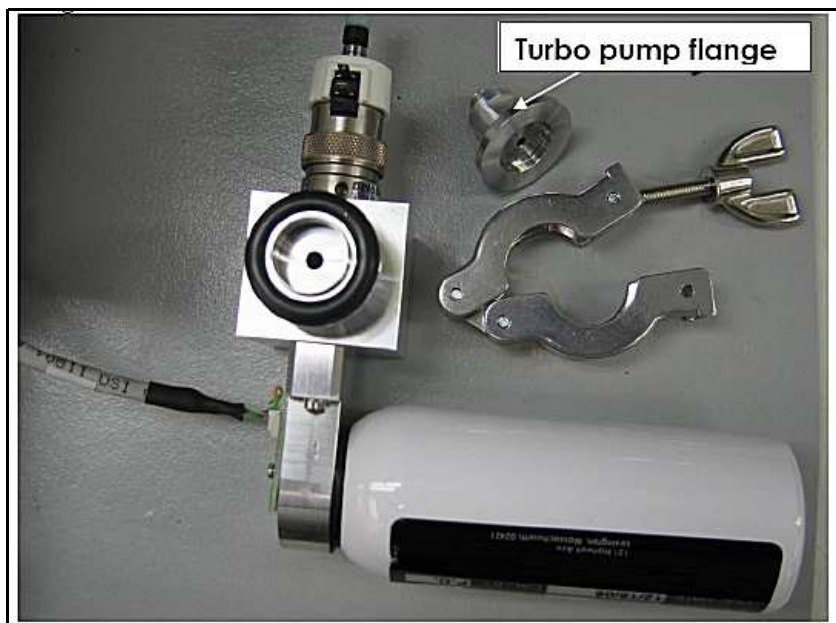

Figure 3: Turbo Pump Flange
5. Remove the clamp from the calibrated leak assembly and remove the turbo pump flange (Figure 3: Turbo Pump Flange).